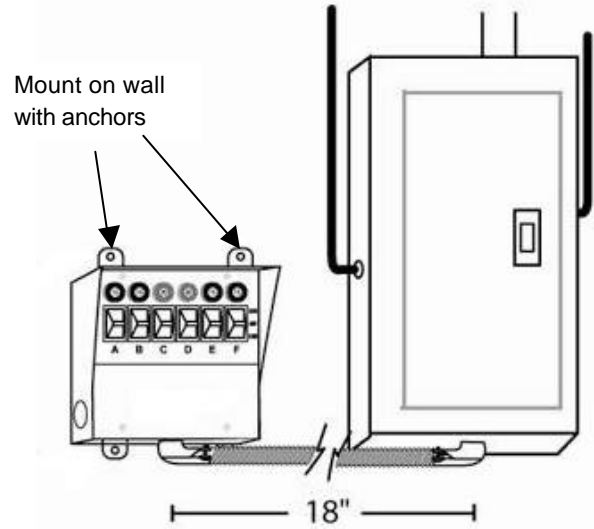

Figure 2
1. Position the transfer switch so that its bottom center is about 18 inches from the bottom center of your load center. The end of the flexible conduit whip should be lined up with a $\frac{3}{4}$ " or 1" knockout hole on the bottom of your load center. Select a $\frac{3}{4}$ " knockout for 4- and 6-circuit transfer switches, and a 1" knockout for 10-circuit transfer switches (Figure 2).